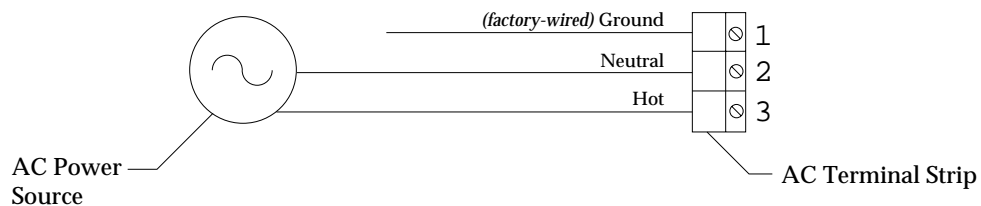

Figure 3-3: AC Power Wiring
4. Connect the AC line to the AC terminal strip as shown in Figure 3-3. (Connect the ground wire to the ground stud on the lower left corner of the main circuit board.)